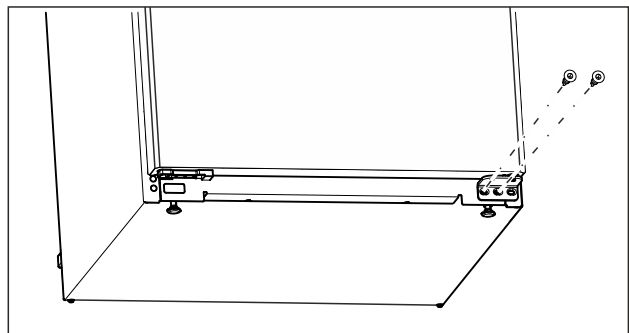

Fig. 10
- ▶ Unscrew the middle screw on the lower swap bearing block with a Torx 20 screwdriver. (see Fig. 10)
- Unscrew the inner screw on the lower swap bearing block with a Torx 20 screwdriver. (see Fig. 10)